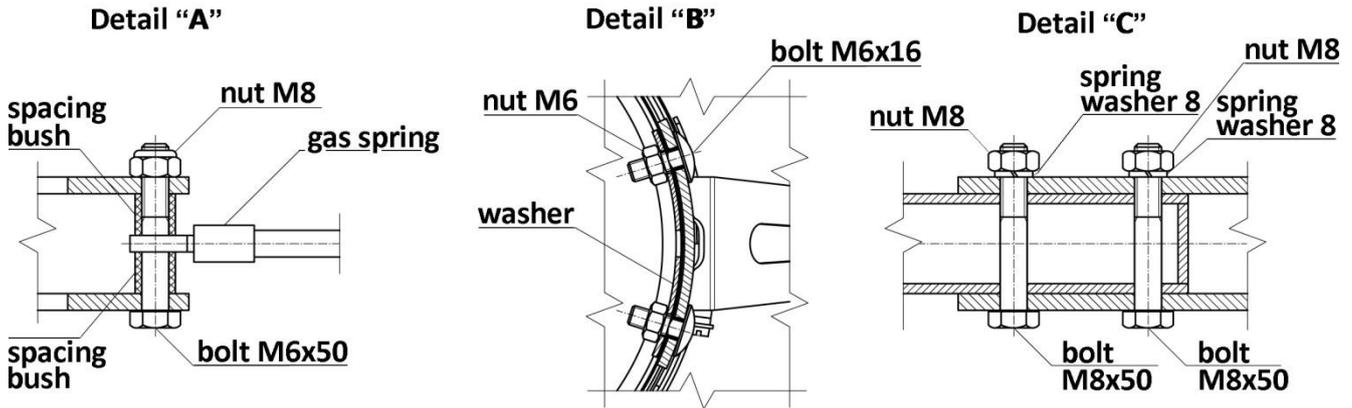

Fig. No.6 – Assembly instruction of the extraction arms type ERGO LUX-{M;K;L;D}
5. Screw together the terminations of the gas spring with a plate of the lower joint – according to the Fig. No.6 Detail “A” (see also Photo No.1).
7. Screw up the element of the hood joint, with the pipe – according to the information in Fig. No.6, Detail “B”.